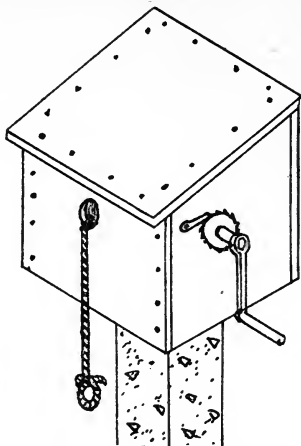

Figure 103.—Concrete Post Supporting a Waterproof Clothes Line Reel Box
*Clothes Line Reel.*—Figure 103 shows a clothes line reel set on a concrete post. The reinforcing rods are threaded and project above the post. The bottom of the reel box is bored to fit the rods and the nuts are